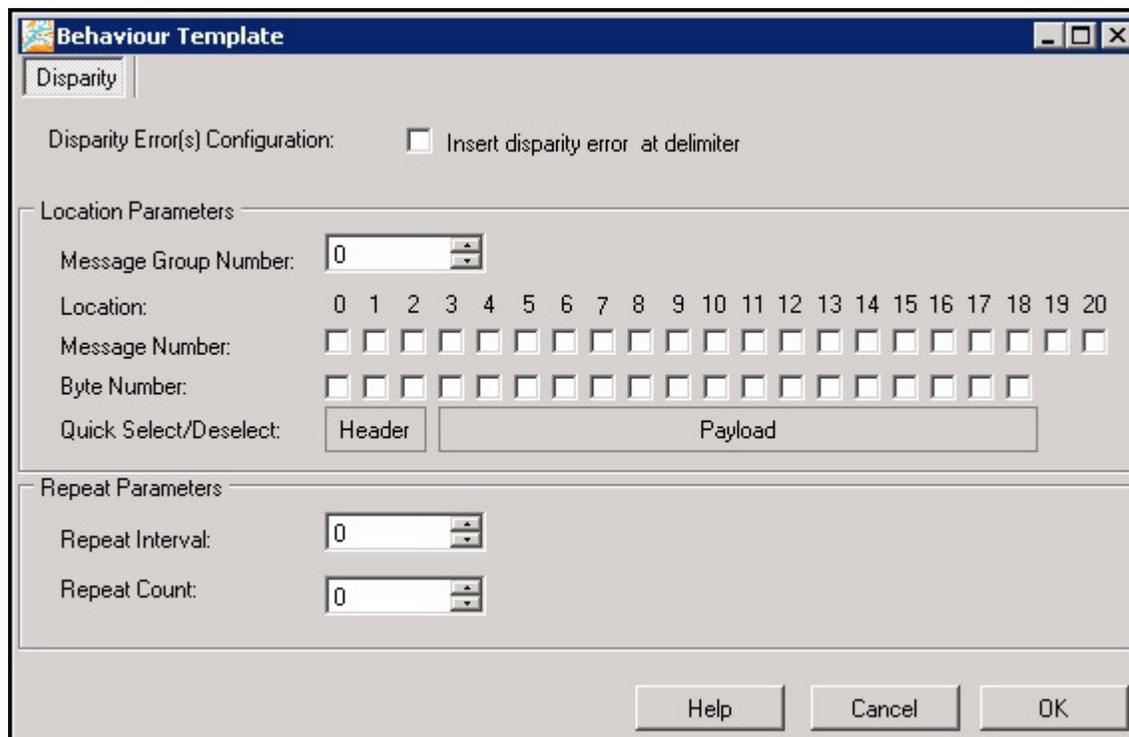

Figure 18 Behaviour Template
- 6 Specify **Repeat Interval** and the **Repeat Count** to repeat the error after the specified message group as shown in the Figure 18.